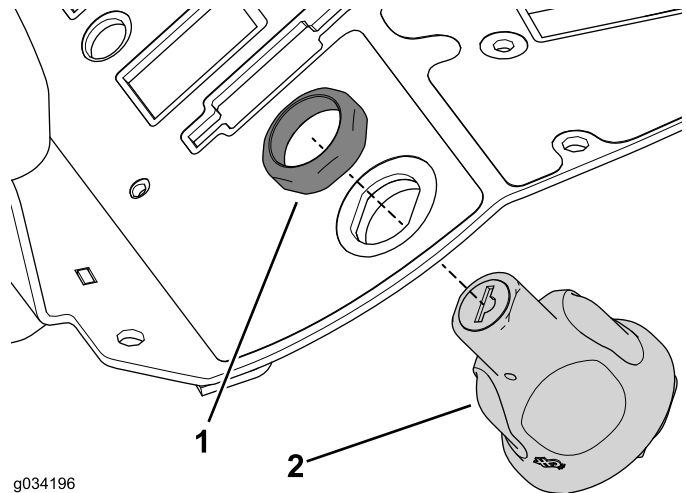

Figure 13
4. Remove the retaining nut on the ignition switch to remove it from the console assembly (Figure 13).